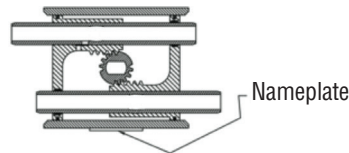

Figure: 3
- 14.2.7 Align the shaft so that the teeth on the shaft will “pick-up” the piston assembly’s rack teeth when turning the top extension of the shaft clockwise (CW). (See Figure 3).
IMPORTANT: Proper 90° rotation can only be ensured if the shaft teeth begin to mesh with the piston assembly’s teeth at the “proper tooth” between these meshing gear pairs. (See Figure 3).
IMPORTANT: Align gear teeth on the shaft as per Figure 3.
- IMPORTANT:** Align gear teeth on the shaft as per Figure 3.